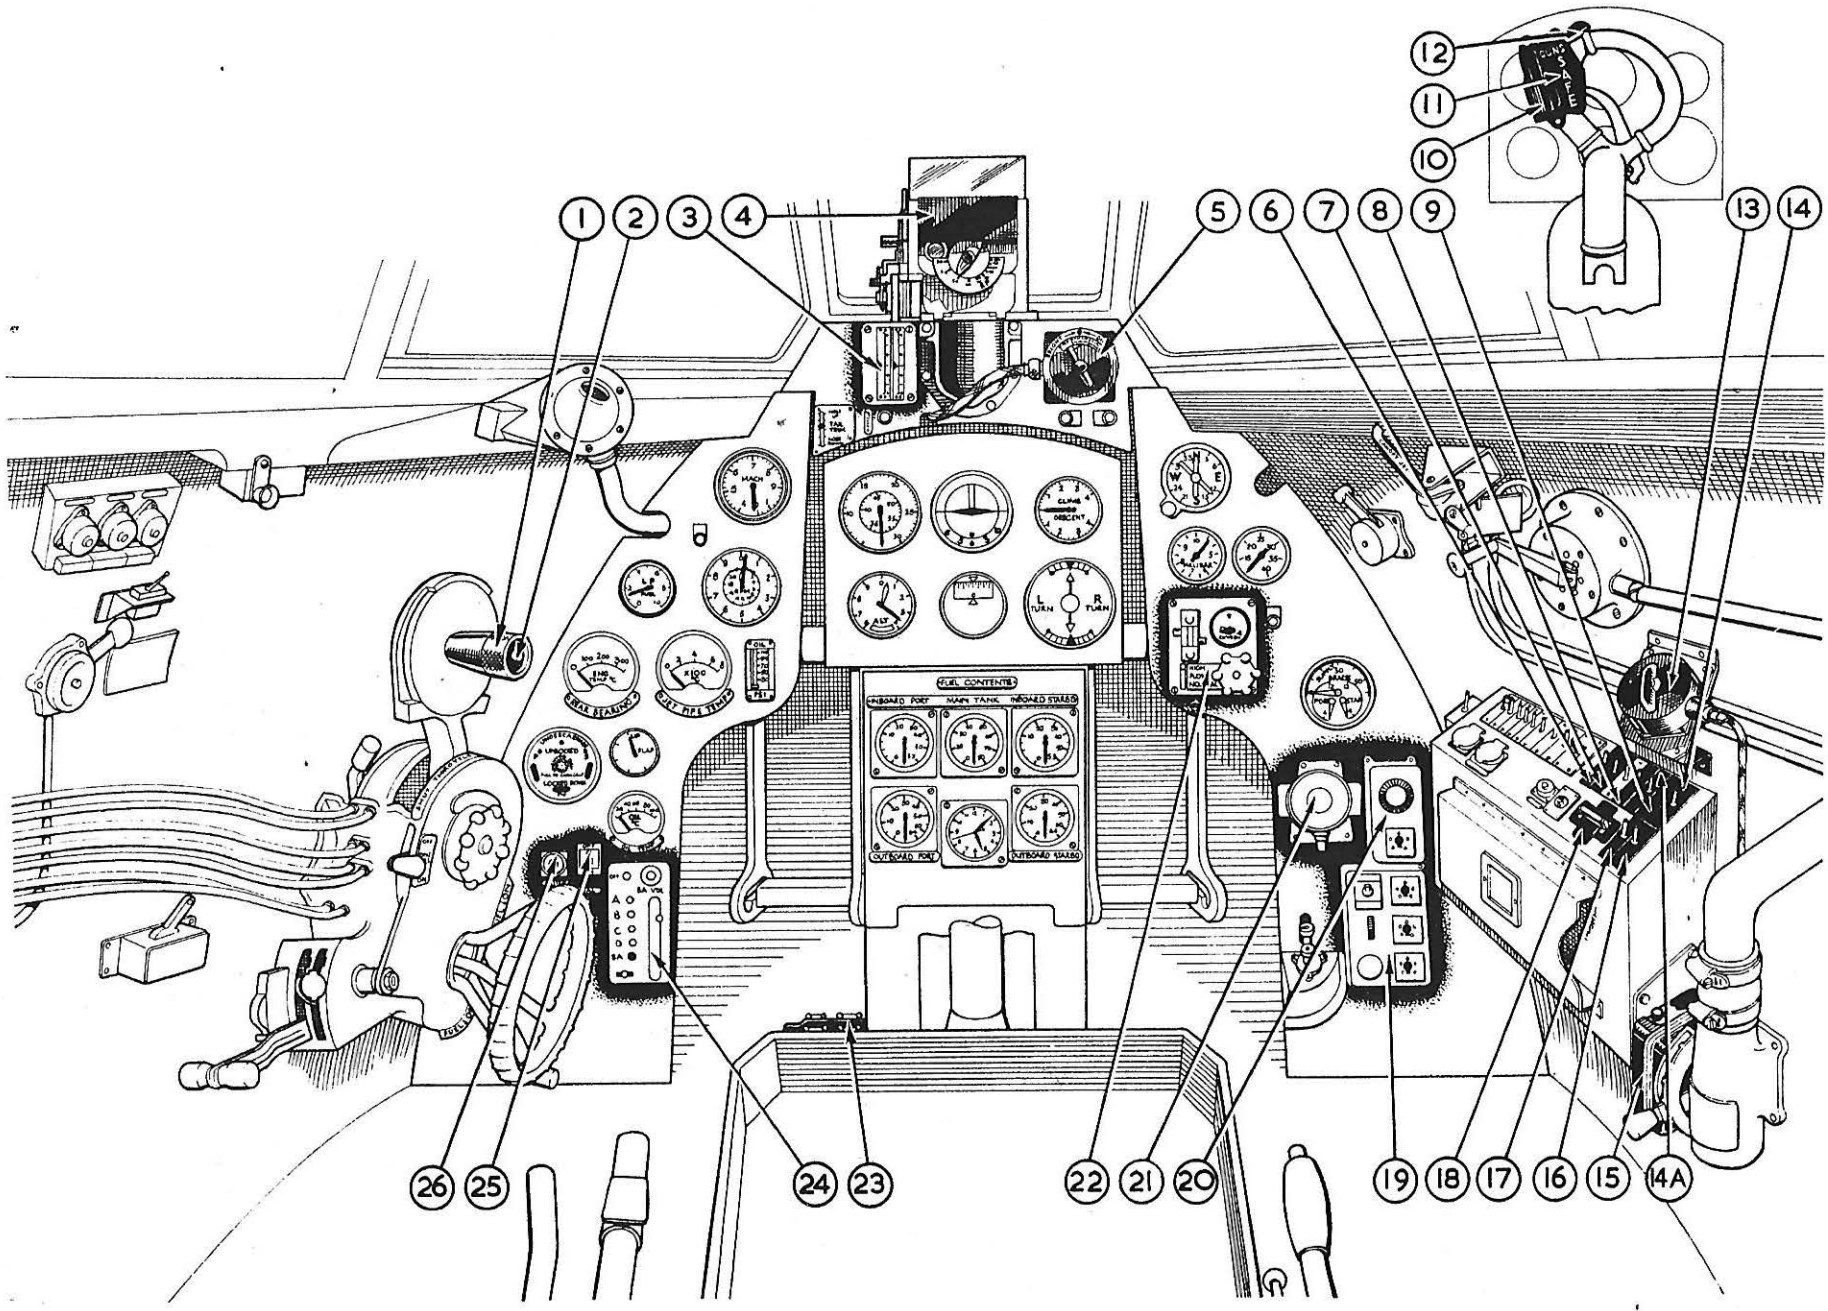

FIG. 3 OPERATIONAL EQUIPMENT
4. The pilot's seat is of moulded plastic, and is adjustable for height by operation of the lever on the right-hand side of the seat. For leg reach, the rudder pedals are adjustable by lifting them against the tension of the springs and then sliding fore or aft into the required ratchet slot. The harness release gear catch is located on the right-hand side of the seat (Sect. 2). The oxygen supply pipe from the economizer is clipped to the pilot's harness. The mic-tel socket is stowed in a spring clip on the front of the seat (fig. 3).